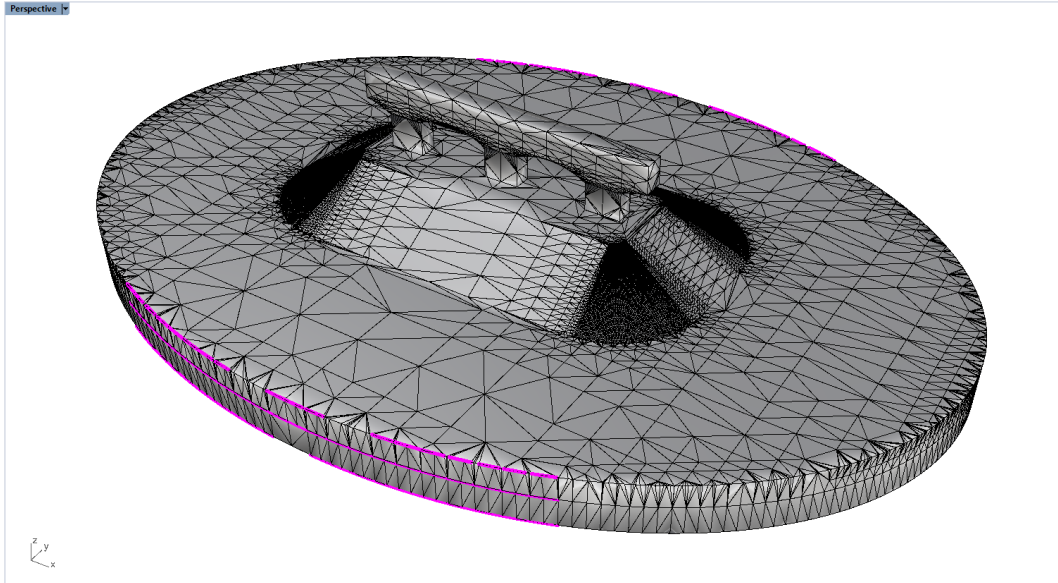

Figure 24: Naked edges (in pink) and clashing faces (red) after using **GInt** with *Tolerance* = 0.005. Compare with Figure 22.
10. Select all initial surface meshes and run **GInt** again. This time specify *Tolerance* = 0.005 and keep all other parameters the same as in the previous run. After **GInt** executes, visualize naked edges and clashing faces as outlined previously in step 8. The results show that there are still some naked edges and clashing faces (Figure 24), which indicates that **GInt** *Tolerance* is still not sufficient.